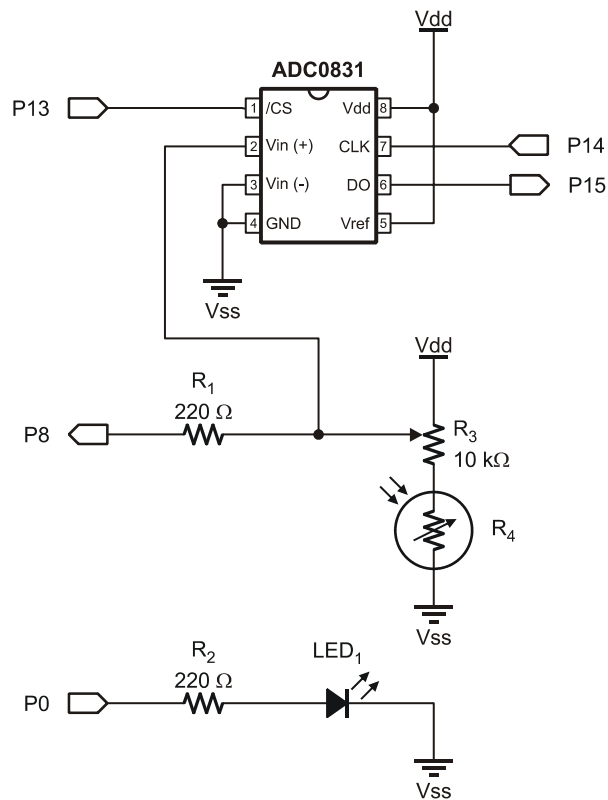
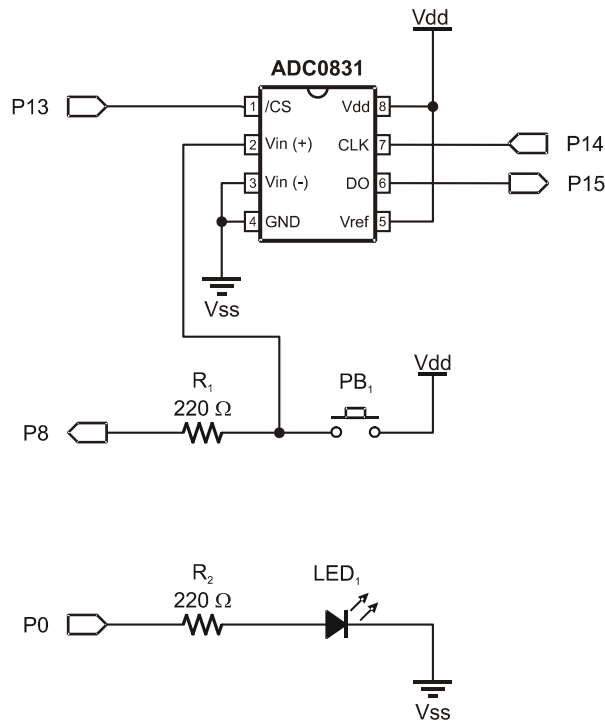

Figure 3-4
Figure 3-6
(1) Photoresistor
- ✓ Modify the circuit as shown in Figure 3-4 by adding the photoresistor between the potentiometer and Vss. Do not modify the ADC or LED portions of the circuit.
- (1) LED – Red
- ✓ Replace the photoresistor circuit Figure 3-4 with the pushbutton circuit as shown in Figure 3-6.